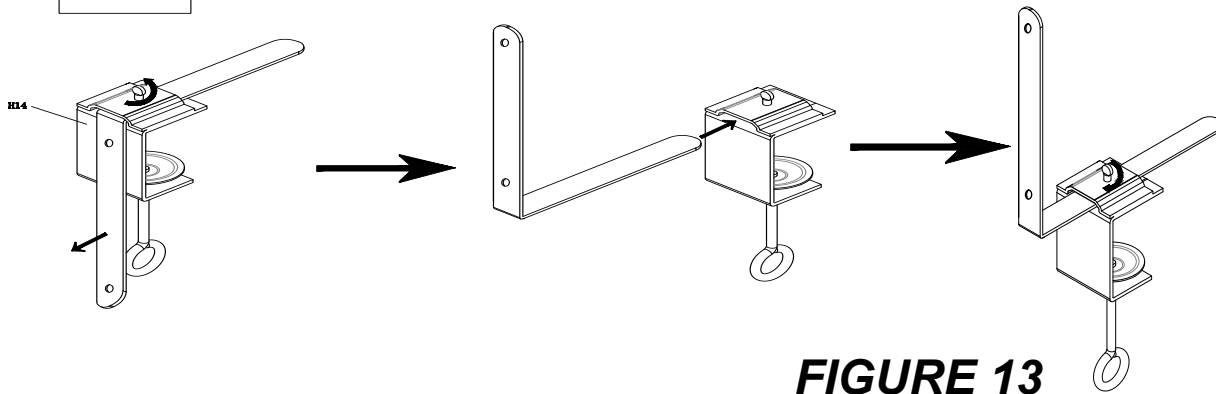

FIGURE 13
STEP 13 Secure the bracket of net post H14 as below shown. See figure 13;